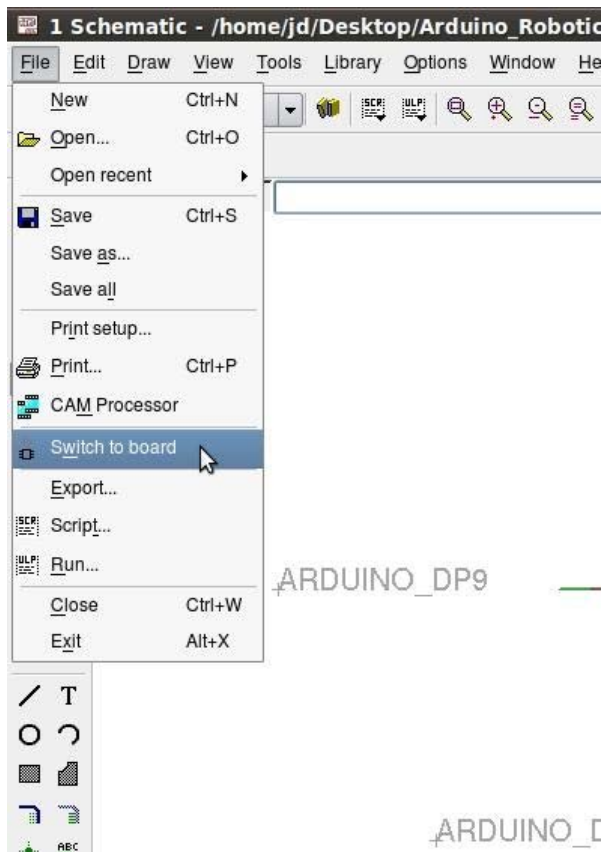

Figure 6-7. Select the File menu from the schematic editor and choose the Switch to board option.
1. **Switch to the board editor:** When your schematic file is ready, select File Switch to Board from the schematic editor menu (see Figure 6-7). When selecting this option, Eagle warns you that no board file exists for the schematic you are working on, and it asks you whether you want to create